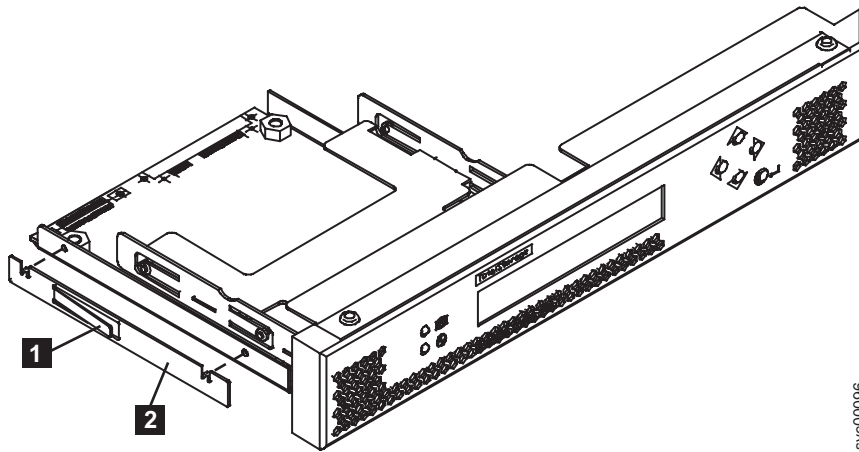

Figure 81. SAN Volume Controller 2145-8F2 or SAN Volume Controller 2145-8F4 service controller
4. Lift the cage assembly until the blue release latch (**1** in Figure 81 on page 99) on the left side of the service controller assembly is accessible.